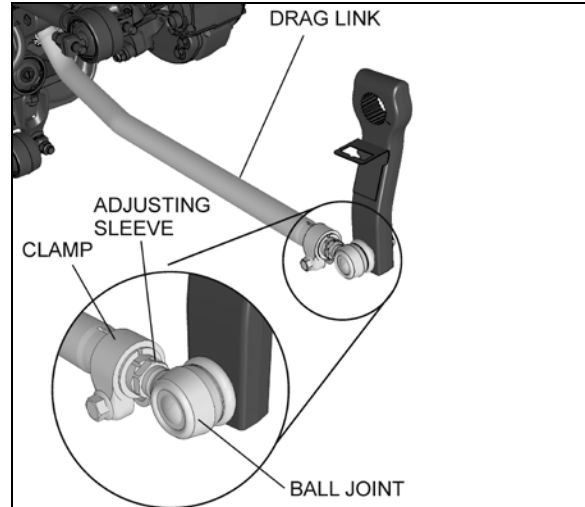

FIGURE 21: DRAG LINK
2. Line up switch lever with reference to the bracket center (Refer to figure 21).
The power steering reservoir is located on R.H. side of engine compartment, on front wall and accessible through the engine compartment R.H. side door. (Fig. 21).
3. Insert dipstick in reservoir. Remove it again to check fluid level (Fig. 21).